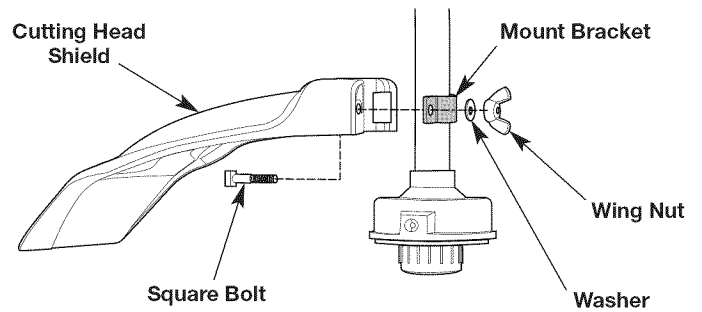

Fig. 2
4. Insert the square bolt into the hole underneath the cutting head shield (Fig. 2). Push the square bolt through the cutting head shield and mount bracket.
5. Put the washer onto the square bolt (Fig. 2).
6. Screw the wing nut onto the square bolt until the cutting head shield is firmly in place (Fig. 2).